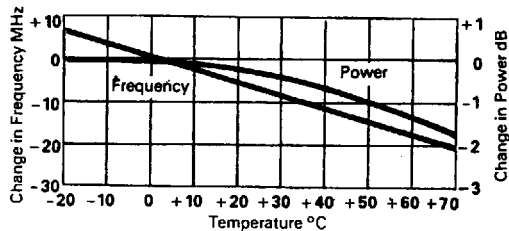

Fig.5 Variation of Frequency with Temperature.
8. Typical variation of frequency and power with temperature is shown in Fig. 5. An adequate heat sink must be provided so that the rated stud temperature is not exceeded.